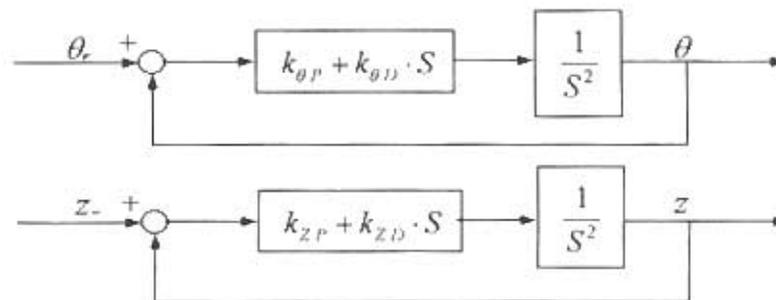

Figure 2
- We want to decouple and linearize the system with respect to the generalized coordinates, θ and z , and form independent single-input-single-output PD control loops as shown in Figure 2. Obtain the computed torque control law to achieve this control and show the block diagram of the control system, including both the computed control loops and the PD control loops.